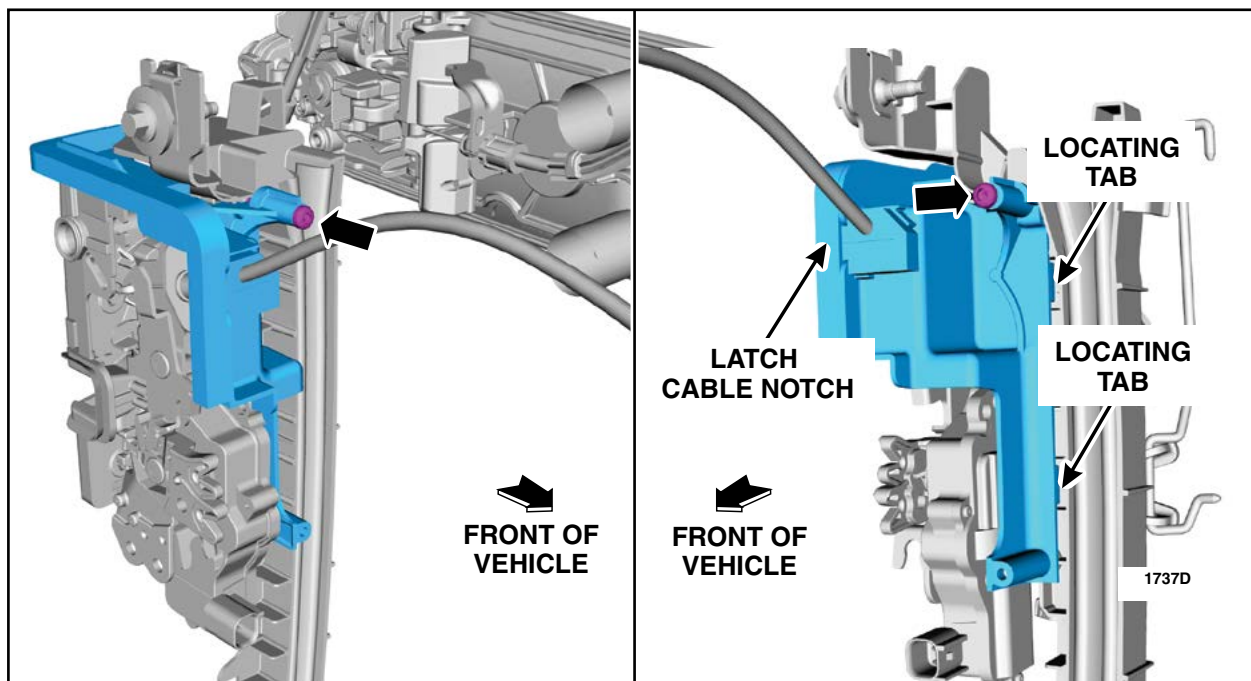

FIGURE 7
9. With the latch and door glass run assembly loose inside the door panel, install the door latch water shield into position. See Figure 7.
10. Install the *new* screw into the top hole of the shield. See Figure 7.